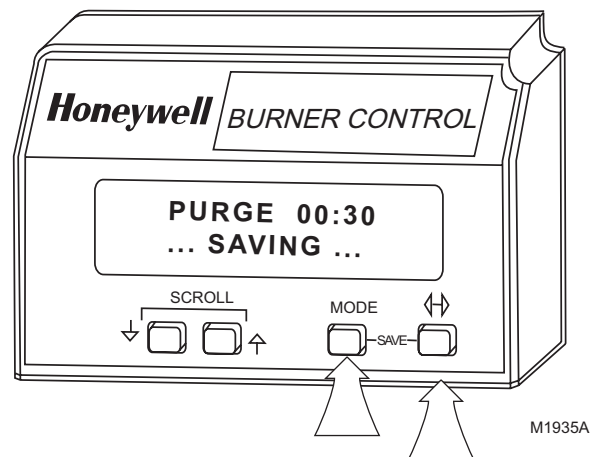

Fig. 12. SAVE function.
4. SAVE function, see Fig. 12. Enables users to identify the selectable message they want to view upon power restoration. The second line selectable message are restored to the most recently saved selection when power returns.